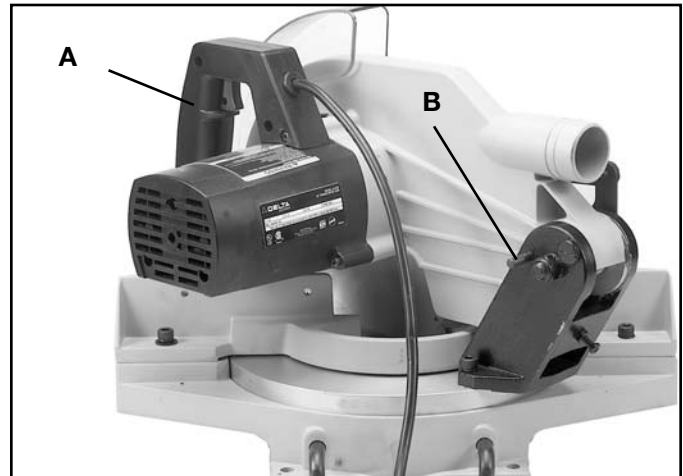

Fig. 3
1. Push down on switch handle (A) Fig. 3, and pull out cuttinghead lockpin (B).